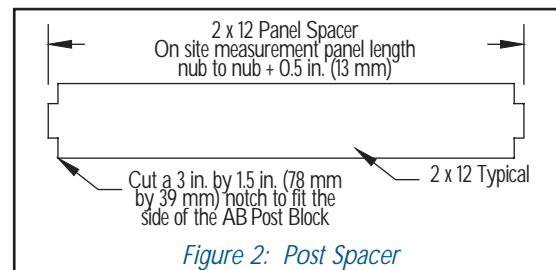

Figure 2: Post Spacer
- Use the pile layout jig shown in *Figure 1 (page 5)* or a 2 x 12 post spacer shown in *Figure 2* to help keep the post blocks square and aligned. When errors in spacing occur on post layout, adjustments should be confined to the panel between the two incorrect posts.